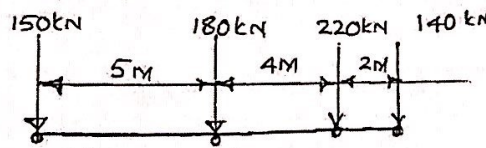

Fig. 10
The load system crosses simply supported girder of 90 m. Determine the value of absolute max. bending moment. Ref. Fig. 10. (10)